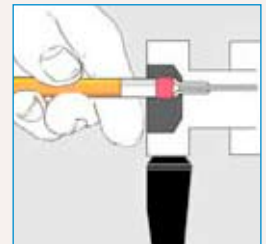

Figure 1 To reform the needle seal, push the eraser end of a pencil against the needle port.
1. If fluid leaks out of the needle port only while loading the loop (i.e., while pushing down on the plunger of the syringe), the problem is most likely that the needle seal or the needle port fitting in the loop filler port is not gripping the syringe needle tightly enough. Tighten the needle seal grip by pushing down on the needle port (See Figure 1). The tightening reduces the hole diameter of the needle seal and port fitting.